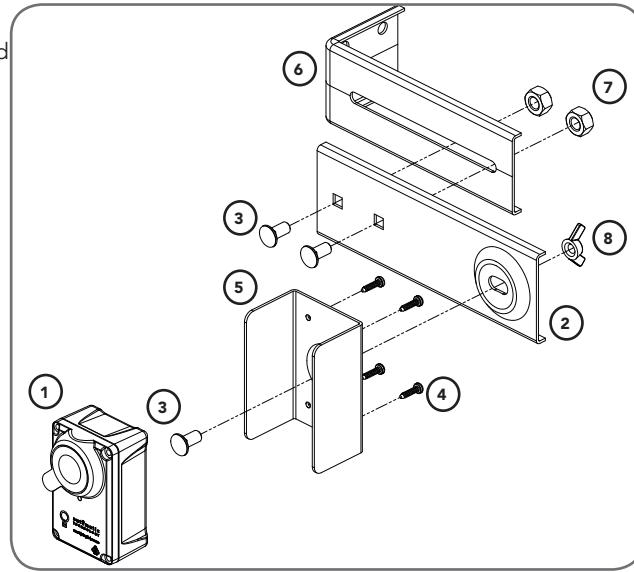

Fig.6.3.1
- Place the round screw (3) through the Bracket (5). Attach the Safety Beam Transmitter (TX) using four (4) M3 x 5 Taptite screws (4) (Fig. 6.3.1).
- Connect the mounting bracket (2) to the Bracket (5) using the wing nut (8) onto the round screw (3). Secure the adjustment bracket (6) to the mounting bracket (2) using two (2) screws (3) and nuts (7).
- Repeat steps (a) and (b) to assemble the Safety Beam Receiver (RX). Locate the Safety Beam in a strategic location in the door opening. **We recommend** that the sensor is placed no higher than 6" and no lower than 5" above the floor level. The mounting surface should be rigid.